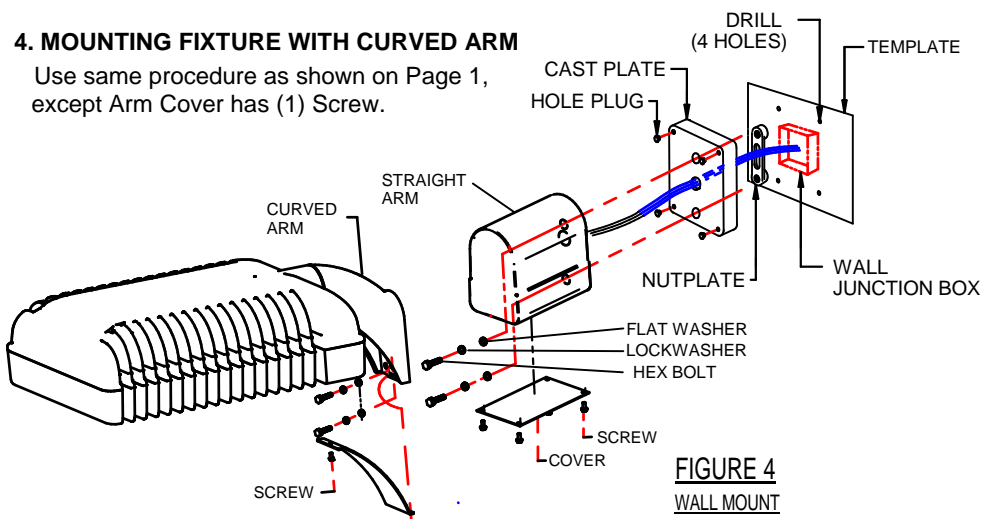

FIGURE 4
- Using template, locate holes in bracket around junction box on the wall. Mark hole locations. (See Fig. 4)